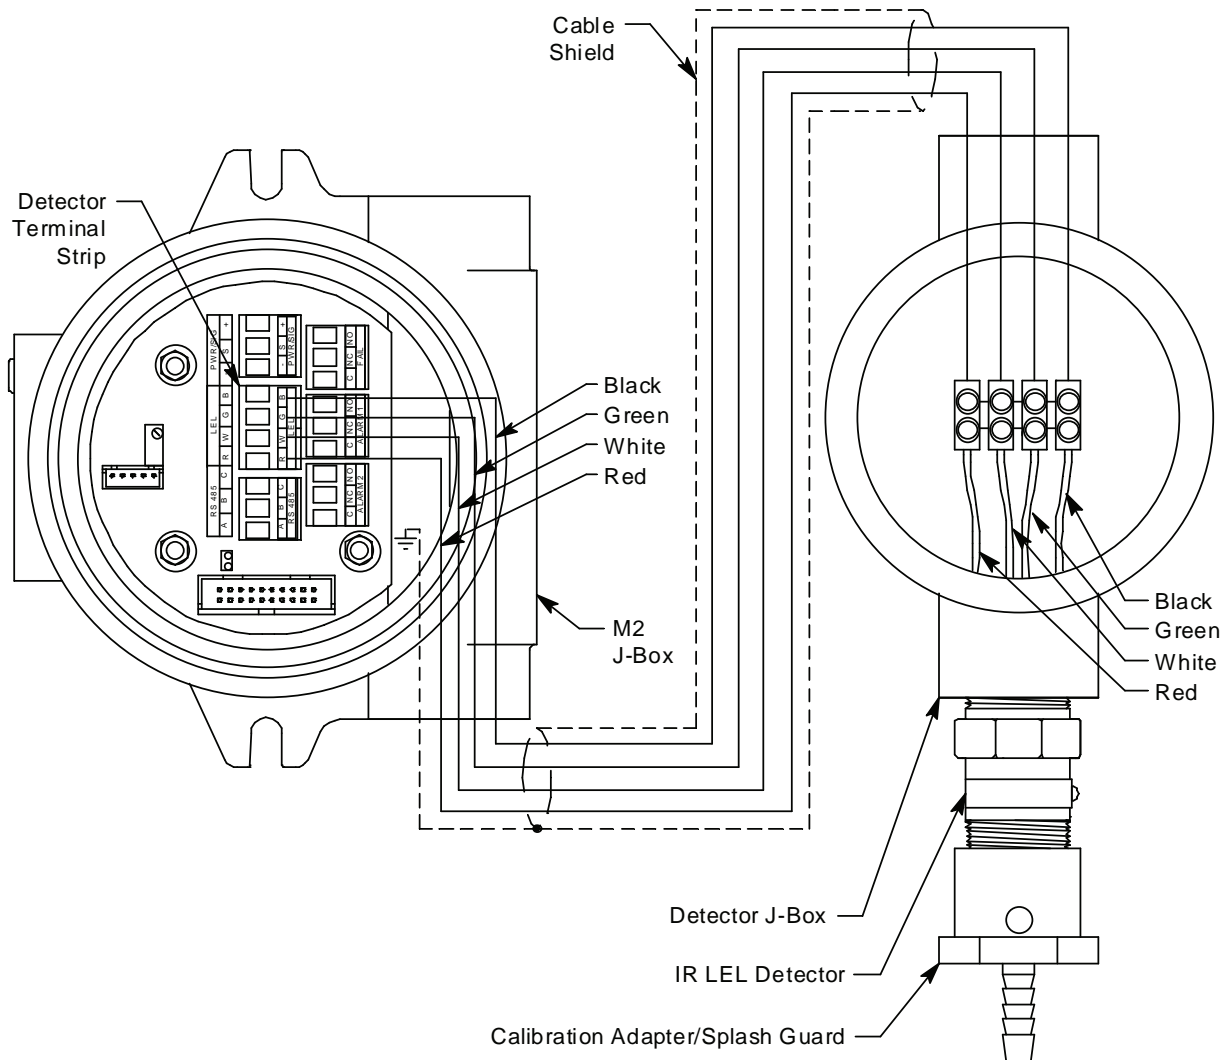

Figure 6: Wiring the Detector to the M2
12. Pull out the detector terminal strip and connect the four wires to the terminal strip as follows (see Figure 6).